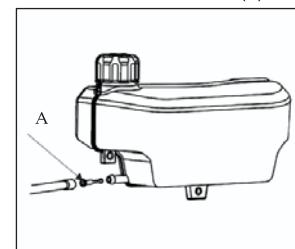

Fig.14      A. fuel strainer
3. Reinstall the fuel strainer (A) and fuel line. (See Fig. 14)